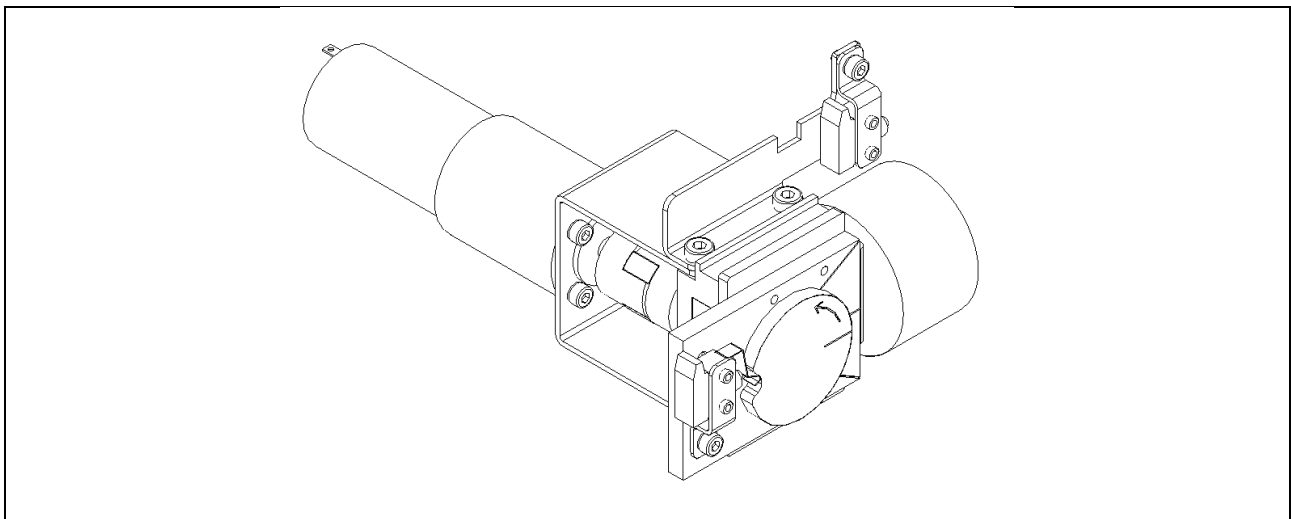

Figure 22: Replacement assembly for the release unit
If the reset motor (item 7), the holding magnet (item 2) or a micro switch (item 8.1 / 8.2) malfunction or are faulty, the complete electrical part of the release unit must be replaced (figure 22).